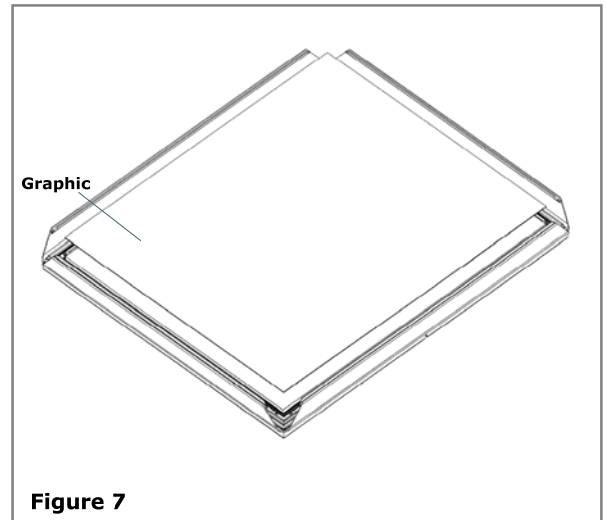

Figure 7
4. Place the graphic in the frame. **See Figure 7.**